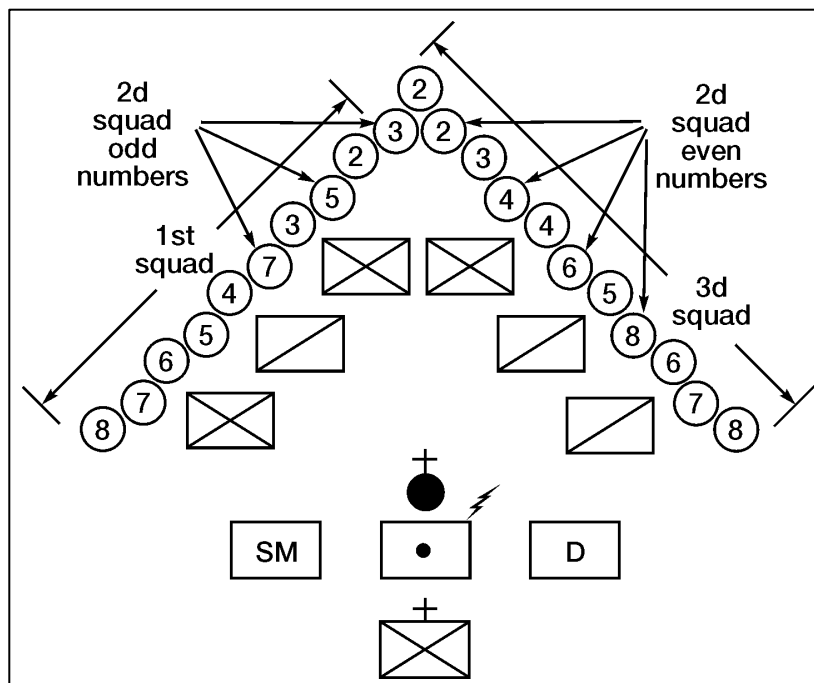

**Figure 191-379-5400-13. Platoon Wedge with One Squad in Close Support**
**12.** Form the platoon in a platoon wedge with one squad in close support (figure 191-379-5400-13).